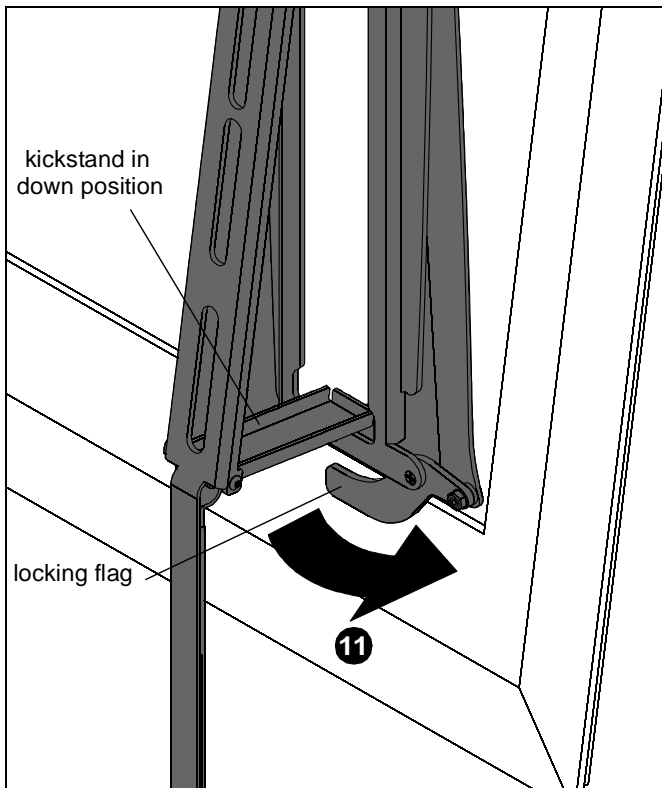

Figure 6
11. Rotate flags on each interface bracket to the closed position in order to lock brackets to wall plate. (See Figure 6)